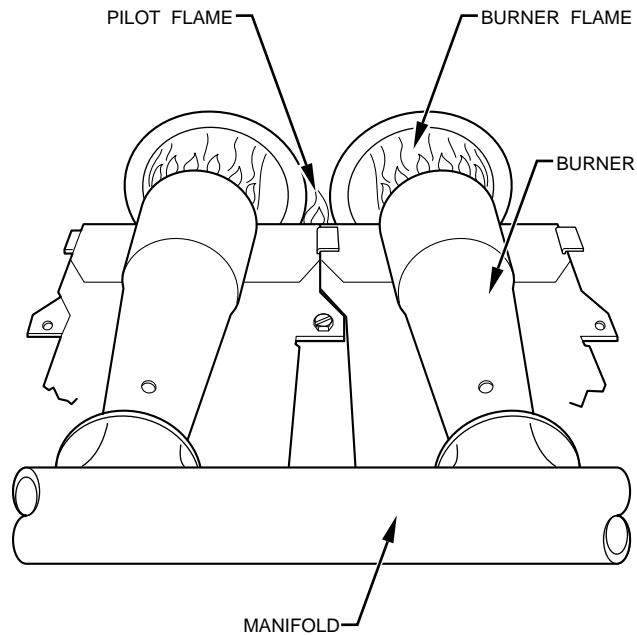

Fig. 6—Burner Flame
2. When correct input is obtained, replace regulator seal cap. Main burner flame should be clear blue, almost transparent. (See Fig. 6.)
10. Check for correct burner flame. (See Fig. 6.)